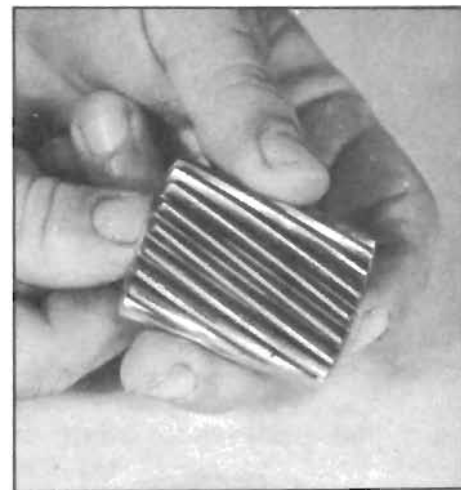

Figure 5-263
4. Coat inside pinion gear with petrolatum. Install Pinion Shaft into long planet pinion gear. Install twenty (20) needle bearings, spacer, twenty more needle rollers, and two (2) thrust washers. See Figure 5-273. Carefully remove pinion shaft. With a twisting motion lock both sets of needle rollers in place. See Figure 5-263.